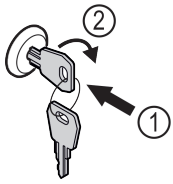

Fig. 117
- ▶ Insert key Fig. 117 (1).
- ▶ Turn key clockwise by 90° Fig. 117 (2).